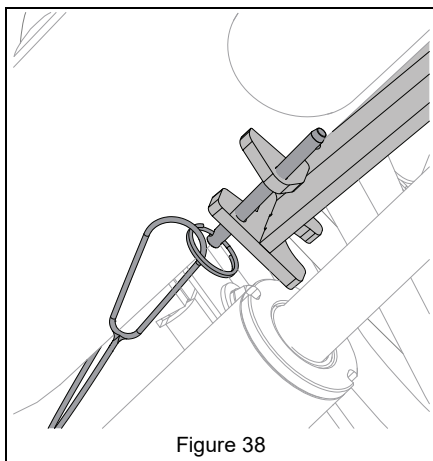

Figure 38
4. Reinstall hitch pin into lift arm support and lift arm. See Figure 38.